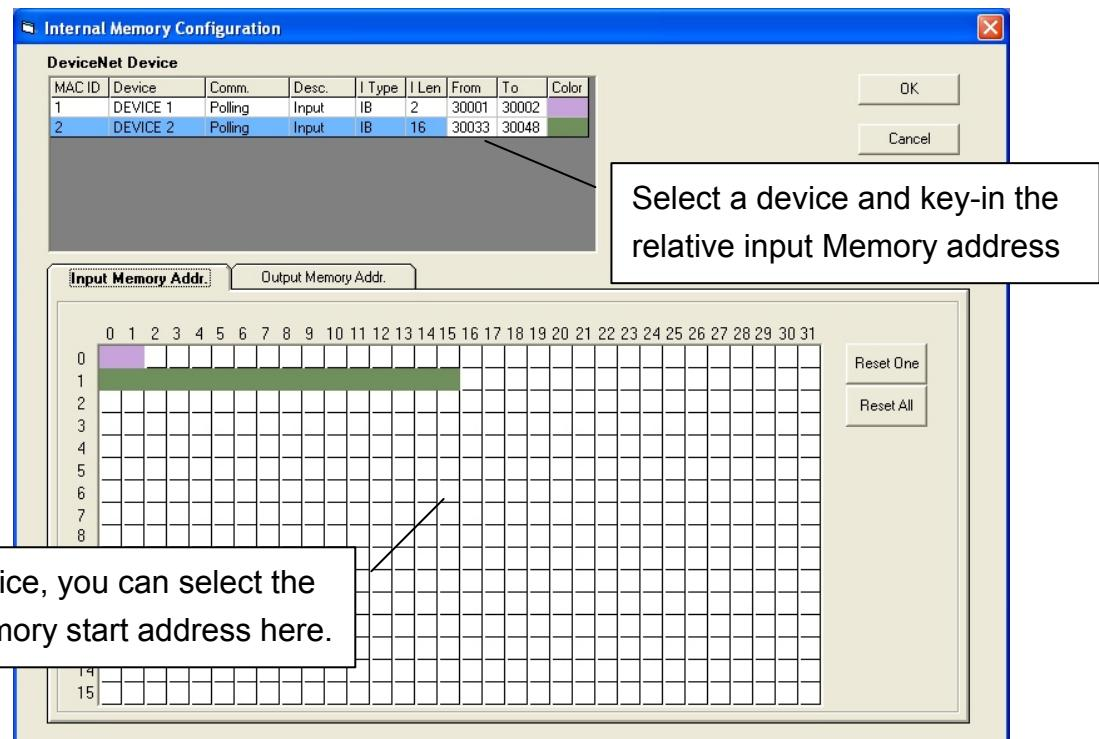

Figure 5-30: Input Memory Address
3. Then users can configure the DeviceNet input devices into Input memory address or the DeviceNet output devices into output memory address. As shown in figure 5-30, 5-31.
As the setting of figure 5-30 and 5-31, users can get the Device1, 2 bytes polling input data, and Device2, 16 bytes polling data, on the Input Memory Table, 0000~0001 and 0100~0115 after click the “Get Data” button or “Auto button”. As shown in figure 5-33.